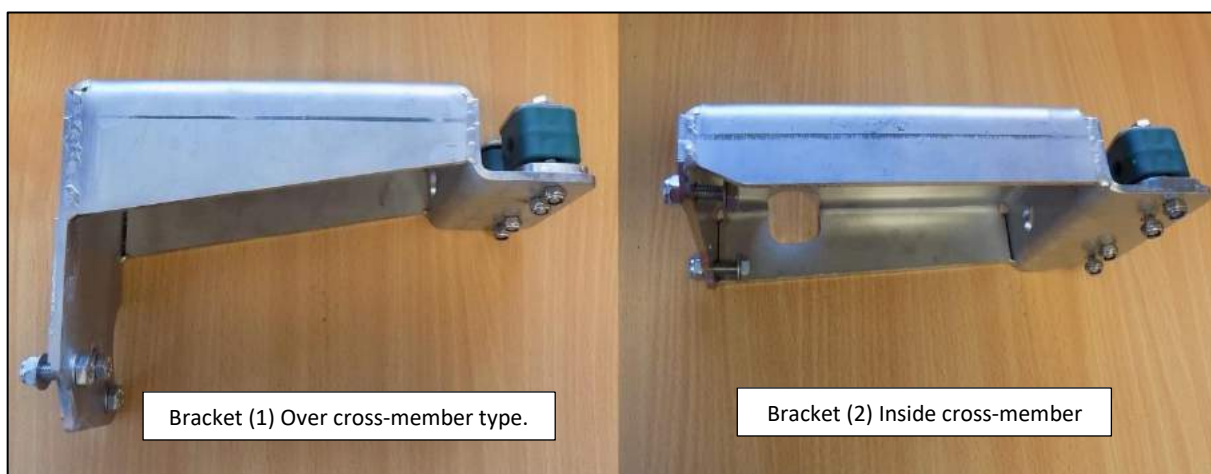

Figure 18
2. There are different versions of bracket used to suit various vehicle models (Figure 18 to **Error! Reference source not found.**).